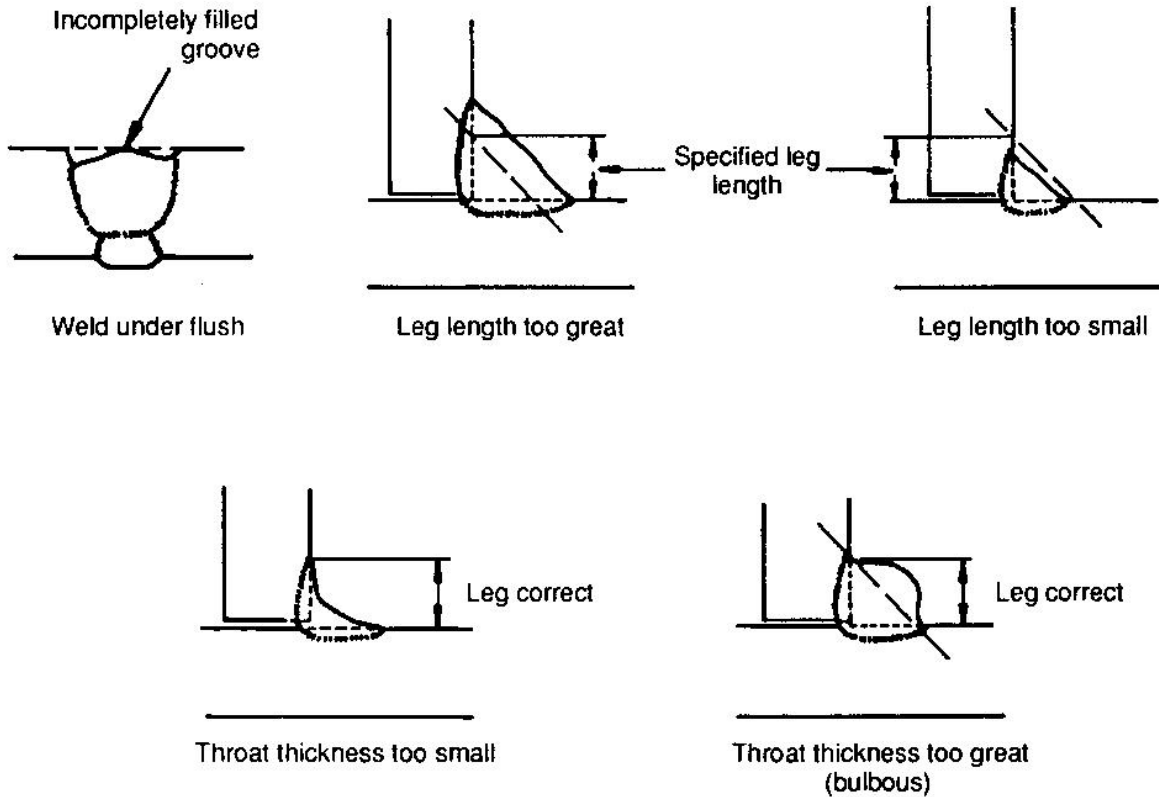

Figure 3-3 Weld dimensions
(4) Weld width (fig. 3-3): Check that the weld width is consistent over the whole of the joint and that it satisfies the dimensional requirements given in the text and illustration, using appropriate measuring devices. In the case of fillet welds, the weld width may not